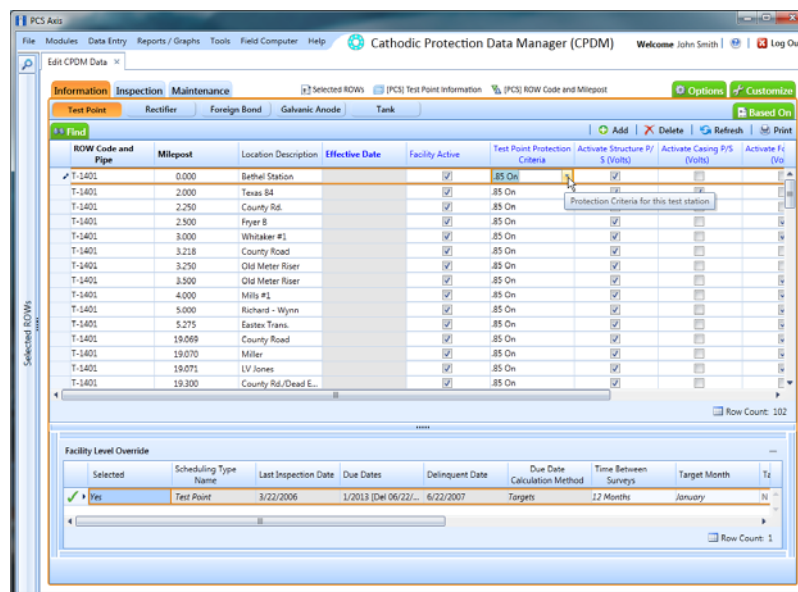

Figure 6-89. Test Point Information Grid
- 3 Open the *Test Point Information* grid. Click the **Information** tab  and then the **Test Point** button  (Figure 6-89).